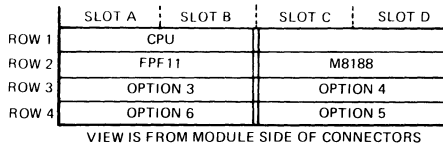

Figure 11-1 FPF11 Module in LSI-11/23 System
The following is a general installation procedure for adding an FPF11 to a LSI-11/23 processor system. The FPF11 is installed in the backplane slot as illustrated in Figures 11-1 and 11-2. The M8188 (quad-height module) becomes an integral part of the CPU when it is installed in the backplane slot adjacent to the LSI-11/23 CPU. The FPF11 module connects to the CPU by a ribbon cable that plugs into the socket normally designated for the optional KEF11-AA floating-point processor chip. The FPF11 receives only power, not signals, from the backplane. The module operates from a single +5.0V DC source. The FPF11 also receives +12V over the ribbon cable that plugs into the floating point chip socket on the processor. This option is independent of the type of bus used by the processor. The FPF11 does not connect to the system bus, and has no effect on bus loading.
1. Turn the power off and reconfigure the system. Refer to Figures 11-1 and 11-2.
2. If present, remove the floating point processor chip from the CPU module. Refer to Figure 11-1 and 11-2 for its location.
5. Install the M8188 module in the vacant slot. For the LSI-11/23 system, this is slot 2, adjacent to the CPU (see Figure 11-1).